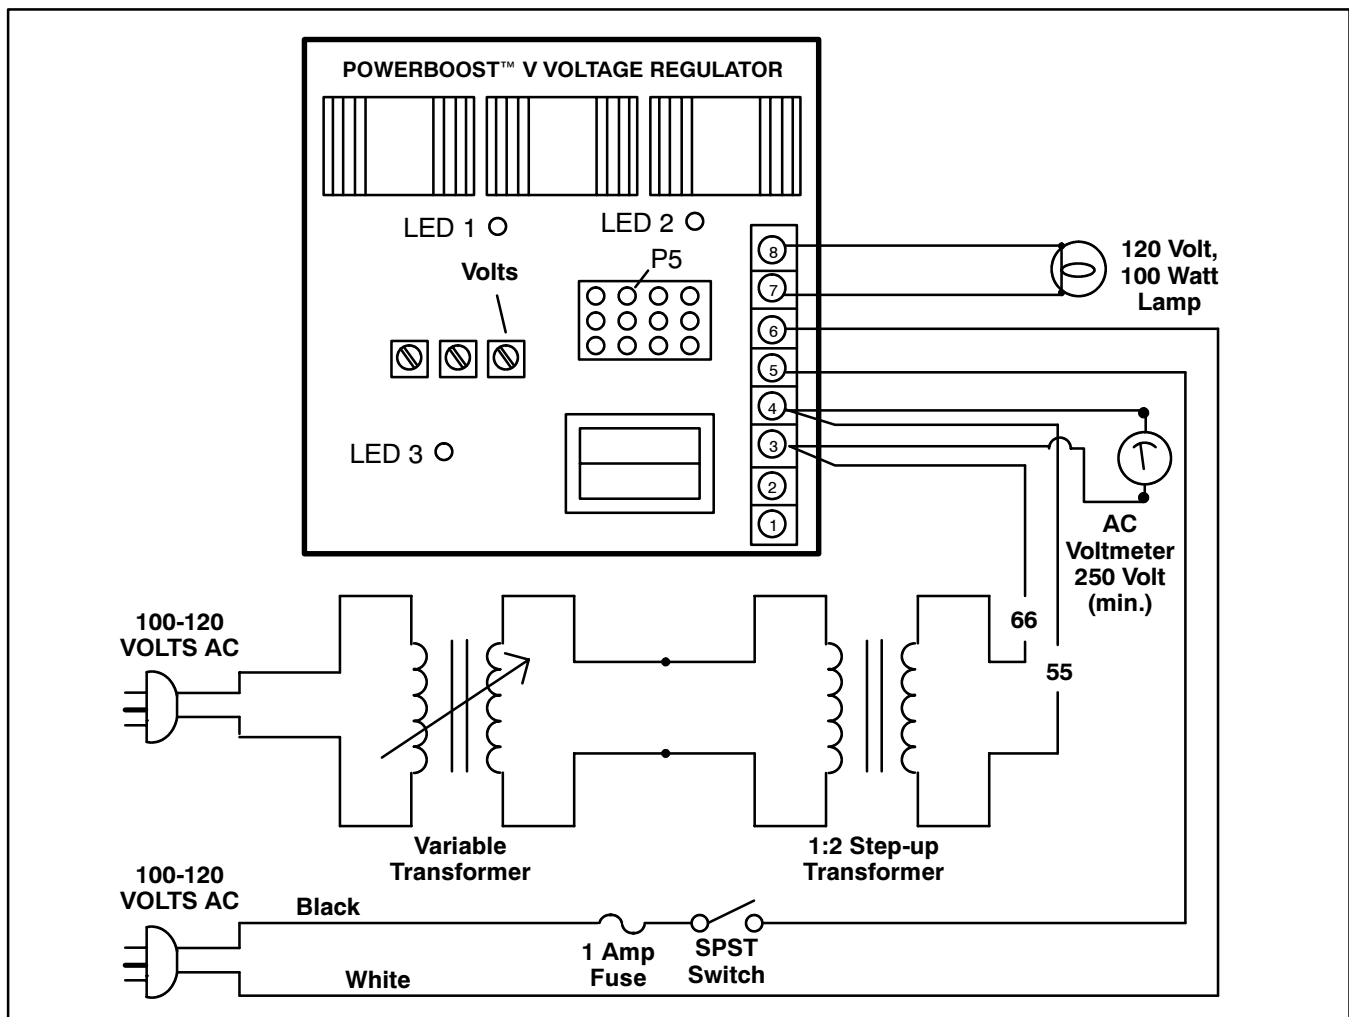

Figure 7-7. PowerBoost™ V Voltage Regulator Test
2. Connect components as shown in Figure 7-7.